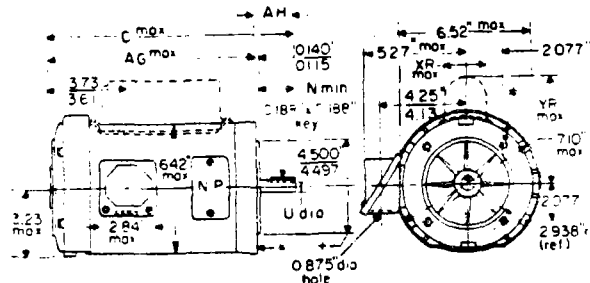

Fig. 2. G-E 40-size motors; NEMA 56C- and 56CZ-frame
- φ All other dimensions except "C" are the same as those for Fig. 2 above. For "C" dimension add .51" to "C" in chart at left. These motors have a screwdriver slot opposite the pulley end.